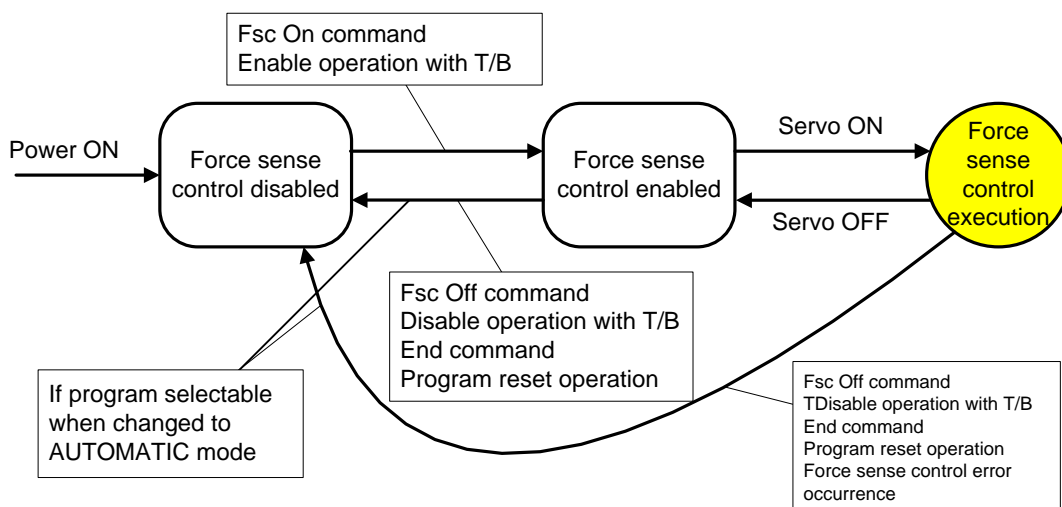

Fig. 12-1: Force sense control function status transition
- (5) "Control mode" and "control characteristics " 1 to 9 use setting values for each corresponding parameter. (Refer to Table 12-2 for details of setting items contained in control mode and control characteristics.)
- (6) If the "control mode" or "control characteristics " is 0 or -1, conditions set with dedicated status variables are used. The default status is the same setting as if "control mode" and "control characteristics " 1 is specified. (Refer to Table 12-2 for details of setting items contained in control mode and control characteristics.)
- (7) If the offset cancel designation is 1, force sensor data becomes 0 for all axes when this command is executed, and the sensor offset component is offset (zero point offset). No offset is made if the offset cancel designation is 0.
- (8) If the offset cancel designation is 1 and a value is set in the following data specified in the <control mode> (force sense calibration executed), the offset component cancel data is updated in sequential consideration of the load while the force sense control is turned on.
- (9) If the offset cancel designation is 1, execute this command after the robot stops completely. If the command is executed immediately after the movement, the zero point offset may not be performed properly due to an inertial force.
- (10) The force sense control enabled/disabled status and "control mode"/"control characteristics" settings are common to both AUTOMATIC and MANUAL modes.
- (11) Even if an interpolation continuous command is specified with the Cnt command, the command is executed after waiting for the robot movement to be completed.
- (12) Force sense control is disabled by performing a program reset or executing an End command. (See Fig. 12-1.)
- (13) Force sense control processing functions only when the servo is ON. Even if force sense control is enabled, force sense control processing is not performed while the servo is OFF. If the servo is turned OFF while performing force sense control processing, processing is stopped. Force sense control processing is then resumed by turning the servo ON again. (See Fig. 12-1.)